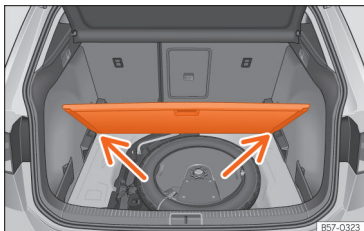

Fig. 181 Variable boot floor: tilted position.
- Rest the floor on its housings »» Fig. 181 (arrows).